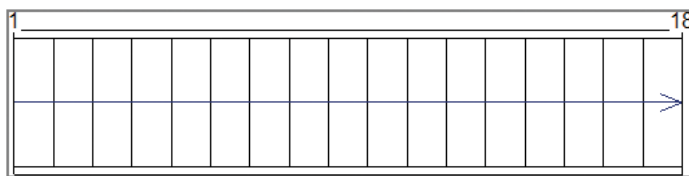

FIGURE 4.8 Sketching the straight-run stair with the Stair By Component tool
3. The stair looks slightly different from the one created with the previous tool. Revit Architecture gives you the start stair count and the end stair count (Figure 4.8).